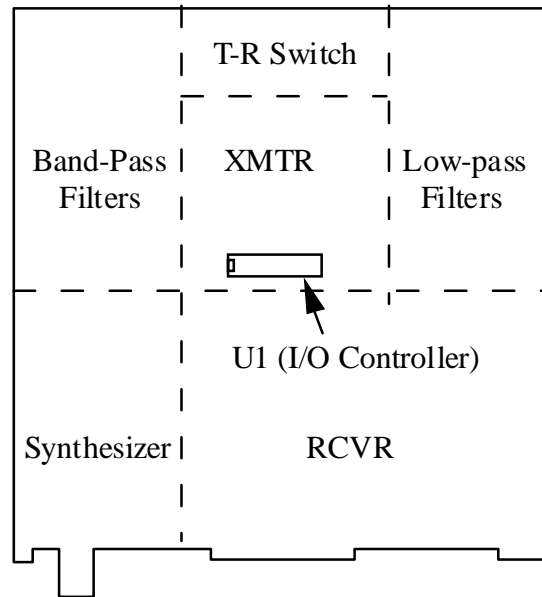

Figure 6-1
- Take a moment to familiarize yourself with the RF board using Figure 6-1 to identify the major sections. If you flip the board over you'll see that there are a few components on the bottom of the board, primarily in the transmitter section.
Turn the board back over to the top side. Install the 28-pin IC socket at U1, near the middle of the board (Figure 6-1). The notched end of the socket should be at the left. Make sure the socket is flat against the PC board before soldering. (U1 itself will be installed in a later step.)